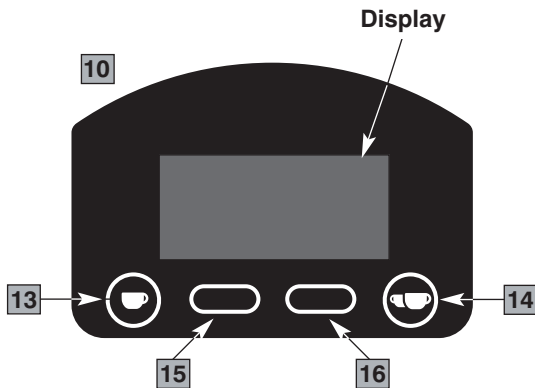
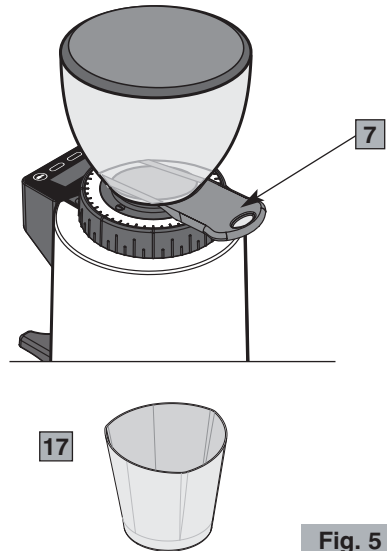

Fig. 4
Fig. 5
### Main parts (Fig. 1, Fig. 2, Fig. 3, Fig. 4, Fig. 5)
6. Make sure that the bean hopper is correctly positioned and that its shutter (7 Fig. 5) is completely open (to the last click).